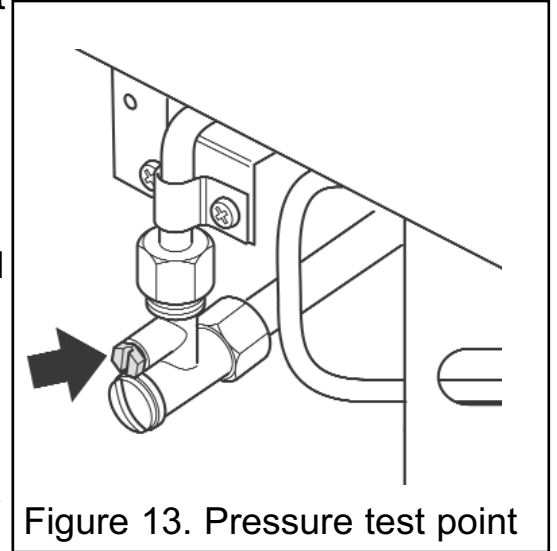

Figure 13. Pressure test point
1. Ensure that the fire is OFF. Check the inlet pressure by fitting a pressure gauge at the test point. The test point is on the inlet 'T' connector (See figure 13). Check the pressure with the appliance alight and set at maximum output.